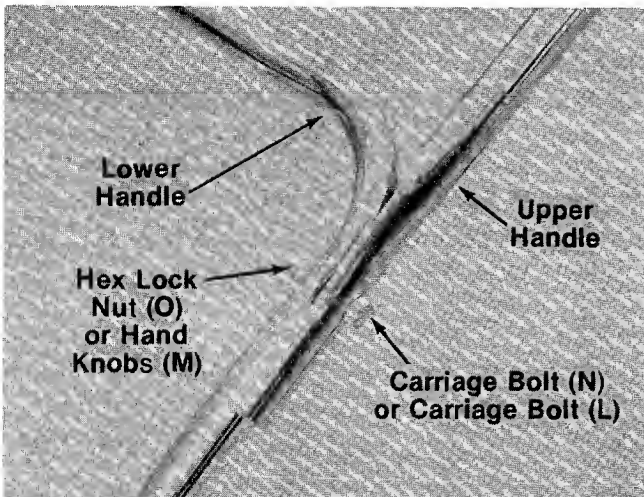

FIGURE 9.
3. Assemble upper handle to lower handle. Secure with two carriage bolts (L or N) and hex lock nuts (O) or hand knobs (M) as shown in figure 9.